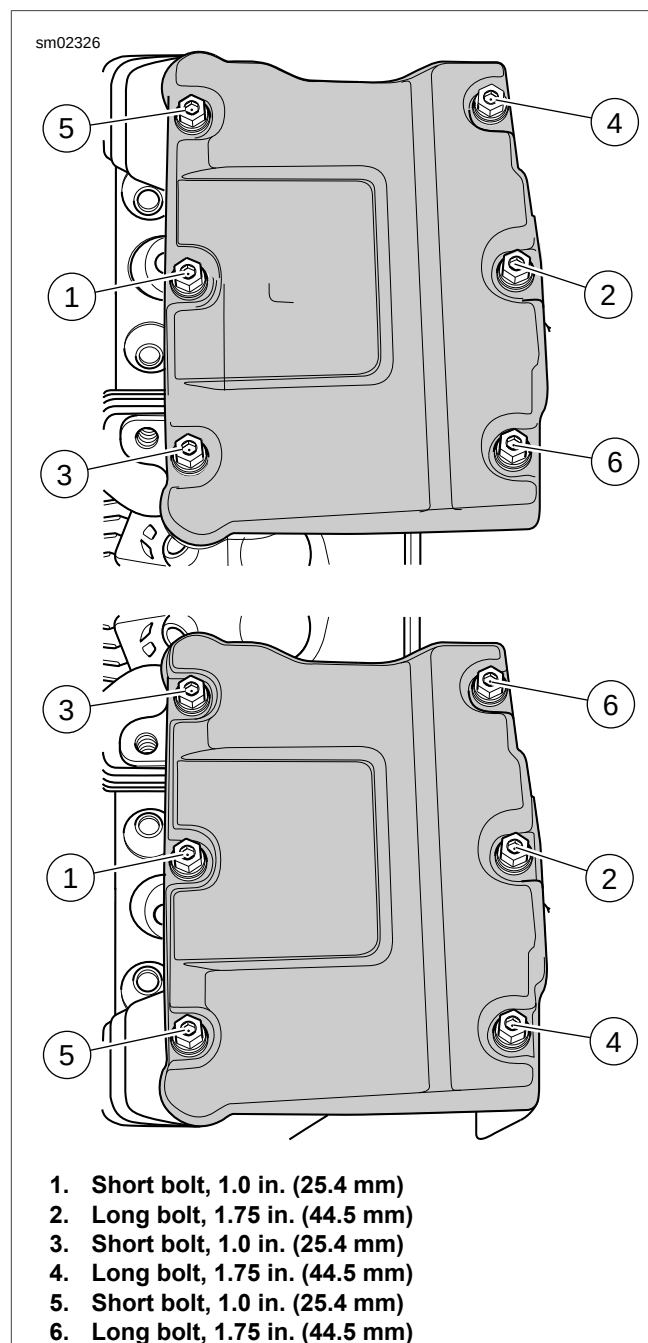

Figure 3-88. Rocker Cover Bolts Torque Sequence
- See Figure 3-88. Install rocker cover and a **new** rocker cover gasket. Tighten screws following the sequence shown to 15-18 ft-lbs (20.3-24.4 Nm).